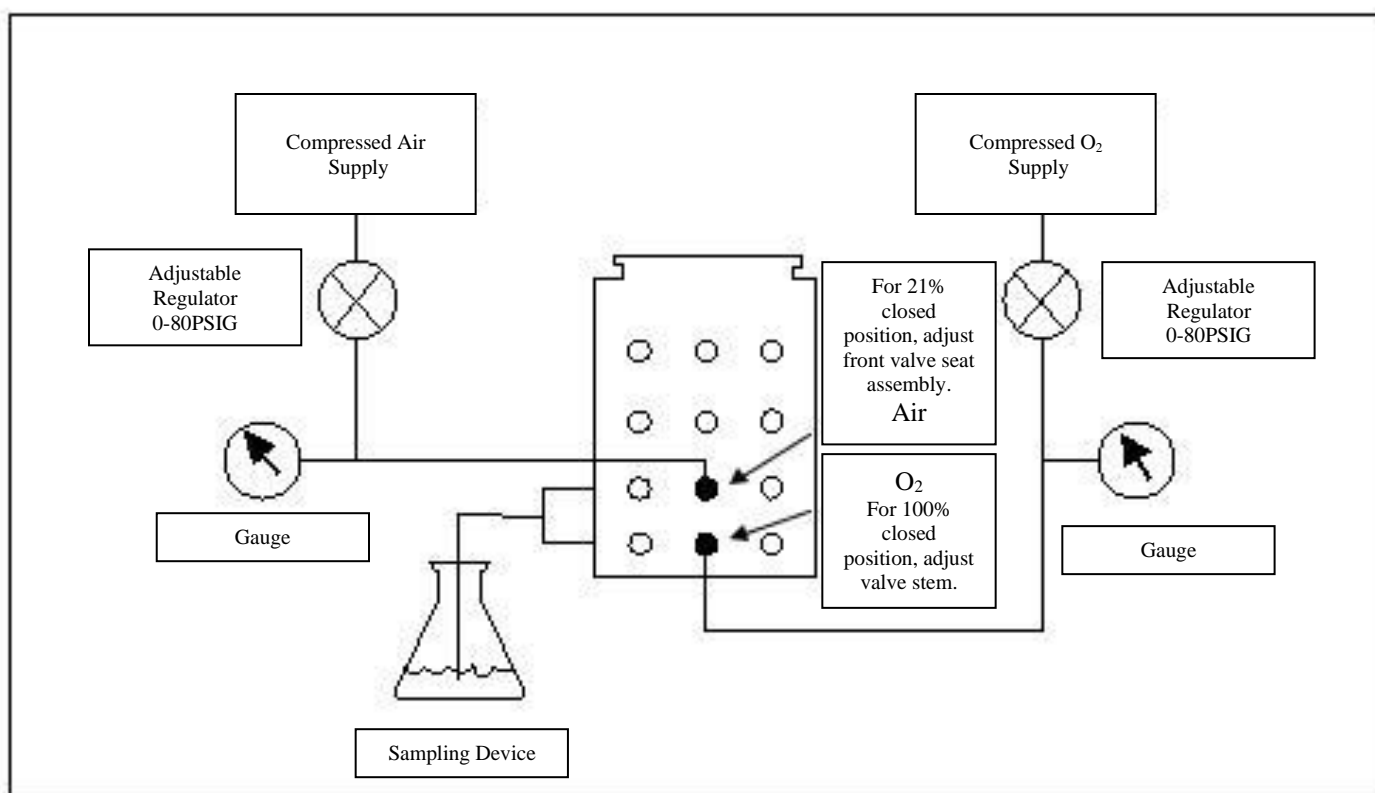

Figure 20
1.1 Connect gas supply source(s), 0-80 PSIG (0-5.62 kg/cm²) pressure regulator(s), pressure test tube(s), leak test tube, and sampling beaker half way filled with water to valve block as shown in Figure 20.